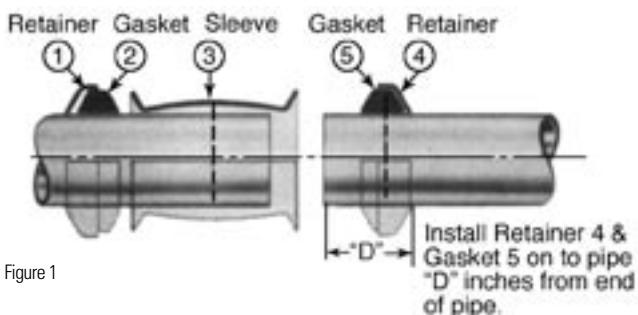
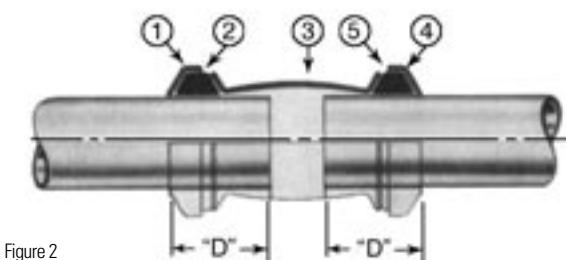

Figure 1
Figure 2
- Install retainer (1), gasket* (2) and sleeve (3) on one side of pipe in sequence shown in Figure 1.
- Install remaining retainer (4) and gasket (5) on other pipe end.
- Position retainer (4) and gasket (5) to proper pipe insertion depth ("D") as shown in Table 1.
- Slide sleeve (3) to gasket (5) and move gasket (2) and retainer (1) into position as shown in Figure 2. Pipe must be inserted to proper depth ("D") into both gaskets as shown in Table 1.
Install both V-couplings, encompassing the retainer, gasket and sleeve as shown in Figure 4. Do not tighten either coupling until the entire joint is assembled (See Figure 2). Tighten nuts to the torque specified in Table 2. Do NOT lubricate the nut or bolt before assembly. The gap method outline in Table 3 may be used for standard gaskets only.